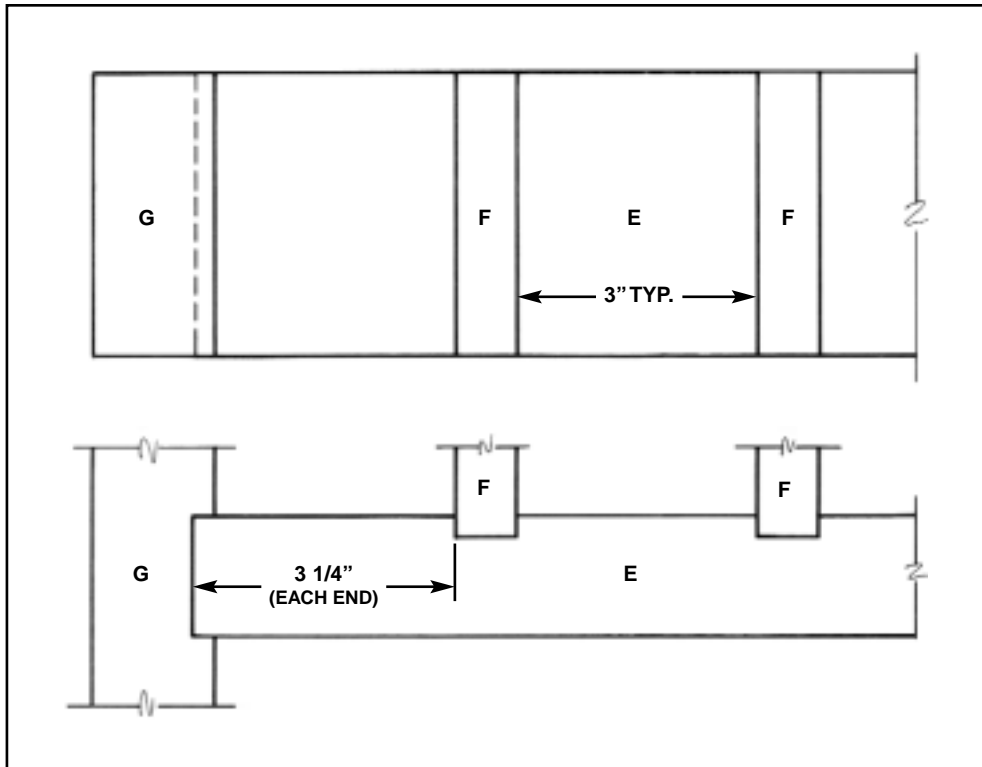

Figure 7
6. Nail first panel—created by boards (A), (B), (C) and (D)—to built-in straps on concrete piers. Use a brace to help support panel during construction.
7. Cut 1/4" deep by 3/4" wide dados in boards (E) for slats (F). See Figure 7.
8. Glue and finish nail boards (F) to boards (E). See Figure 7.
10. Cut 45-degree miter on (H) and (I). Glue and nail to top of panels. See Construction Diagram.